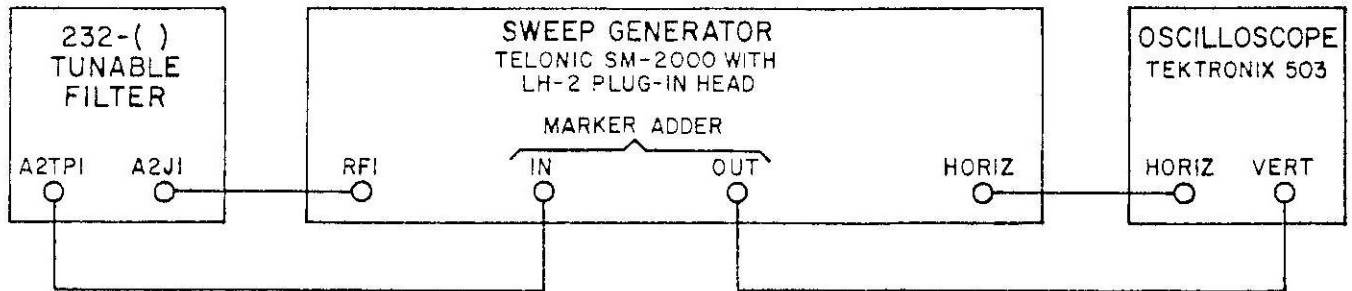

Figure 4-1. Equipment Setup, Type 232-( ) Tunable Filter, Overall Alignment
- (1) Connect equipment as shown in Figure 4-1.
- (2) Set output frequency of sweep generator to 15 MHz.
- (3) Tune 232-( ) to 15 MHz; rotate GAIN control fully clockwise.